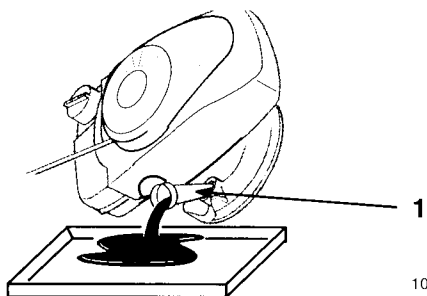

Figure 20
2. Drain the oil from the oil fill tube at the dipstick into an appropriate container (Fig. 20).